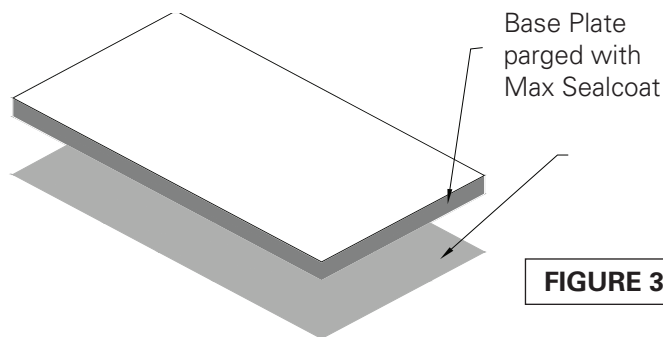
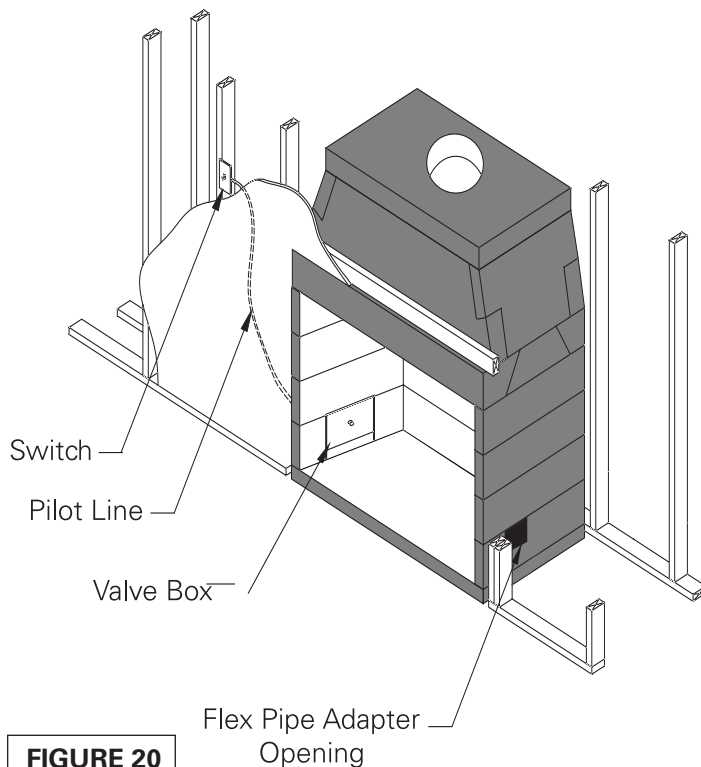

FIGURE 3
FIGURE 20
The Isokern components will arrive parged from the factory. The base plate will need to be placed parged side down with the uncoated side up. **(Figure 3)**
1. Set the base plate in a full bed of Earthcore Mortar on a level support surface. **(Figure 3)**. Do not set the base plate so that it is in span.
1. If the preference is to insert the valve box inside the firebox follow these instructions. **(Figure 20)** Start by setting the base plate in a full bed of Earthcore Mortar on a level support surface. **(Figure 3)**. Do not set the base plate so that it is in span.